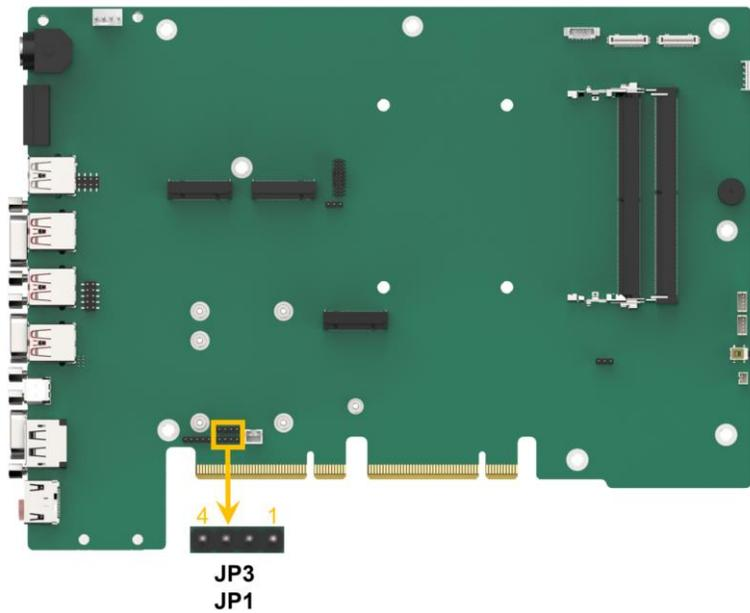

Figure 4-20: Power Delivery Debugging Connector Location
- CN Location:** See **Figure 4-20**